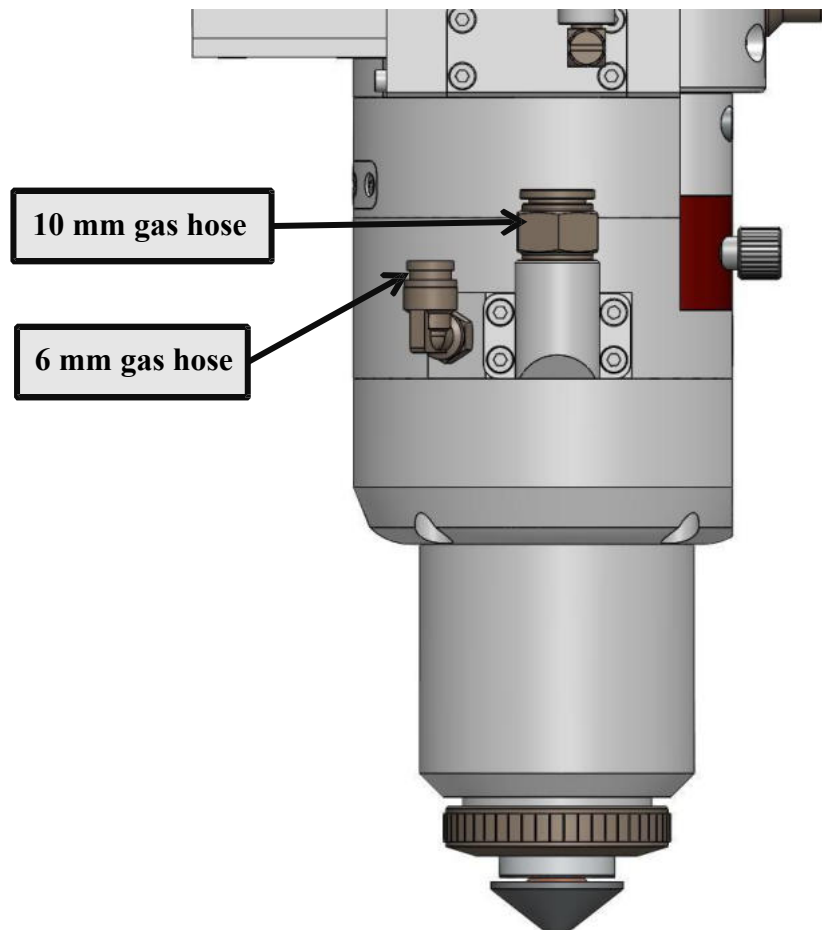

Figure 1.5
(1) The inlet is connected to 10 mm gas hose, as shown in the Figure 1.5 below, used to connect with the cutting had, with the input pressure <3.0 Mpa.
(2) The inlet is connected to 6 mm gas hose, as shown in the Figure 1.5 below to access to cooling gas at the input pressure <0.6 MPa.